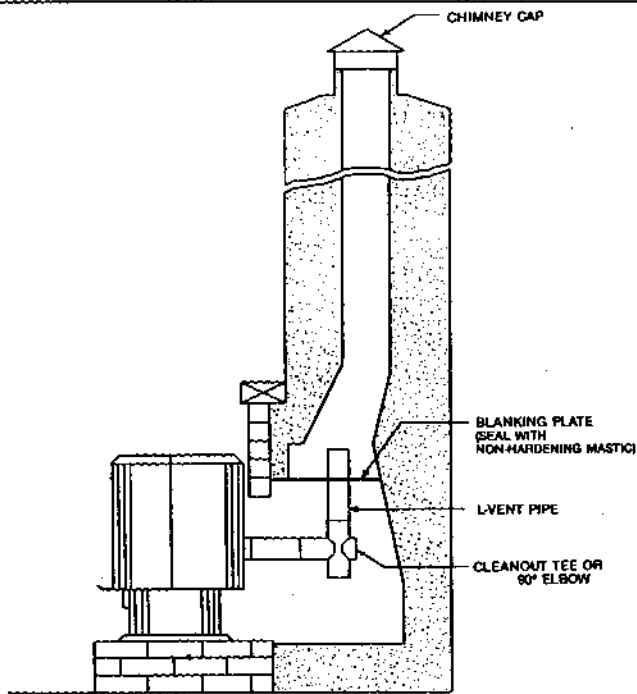

FIGURE 6
2.34 FIREPLACE INSTALLATIONS (See figure 6)